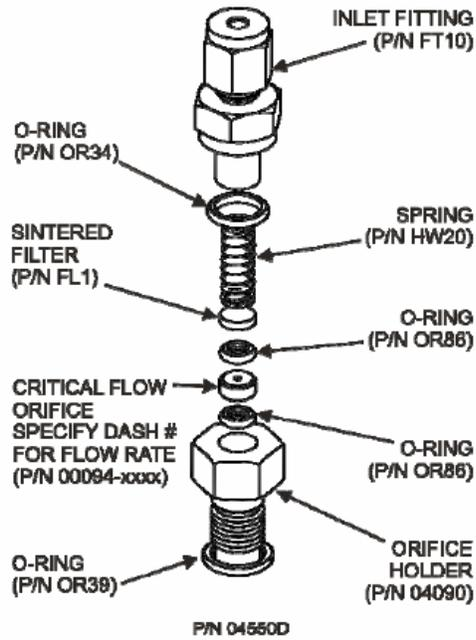

Figure 13 T200UP Critical Flow Orifice
9. Reassemble the parts (as shown in **Figure 13**, pg. 47).